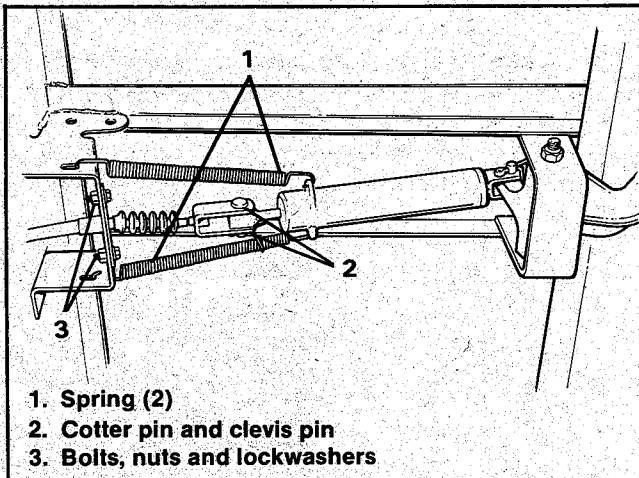

Figure 2-11. Brake Cable that is Secured with Two Bolts, Washers and Locknuts
1. From under car, disconnect the two cable return springs (1, Figure 2-11) from the spring capsule.
2. Remove cotter pin and clevis pin (2, Figure 2-11) releasing the brake cable from the spring capsule.
3. Remove the two bolts, washers and locknuts (3, Figure 2-11) that secure cable and plate to cable stop bracket and remove cable.
5. Secure cable and plate to cable stop bracket using two bolts, washers and locknuts (3, Figure 2-11).